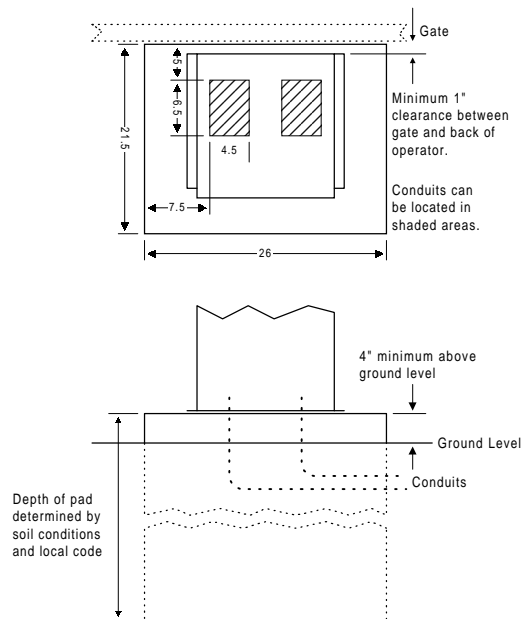

Figure 6
1. Construct a form for the mounting pad according to the specifications shown in figure 6. Be sure to level the top edge of the form and that the top of the form is a minimum of four (4) inches above ground level. We suggest that you contact the local building department to determine the required depth of the pad since soil conditions and code requirements vary from city to city.
2. Set conduits, reinforcing bars and/or wire mesh if required. The number of conduits is determined by the application requirements. We suggest using a minimum of four (4) conduits. 1-High voltage power lines; 2-Low voltage control lines; 3-Loop lead-in wires (open loop); 4-Loop lead-in wires (reverse loops). **See SECTION 2.** Set additional conduits as required for your application. NOTE: If conduits are not set in the pad, they can be routed to a J box where connections to the operator can be made after it is installed. There are three (3)  $\frac{1}{2}$ -inch knockouts and one (1)  $\frac{3}{4}$ -inch knockout on each side of the operator for this purpose.